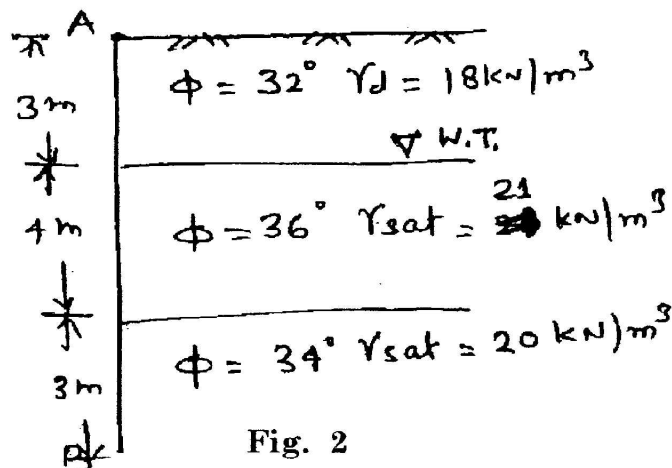

Fig. 2
- (b) Compute the total earth pressure and its point of application for the retaining wall 'AB' shown in fig. 2.